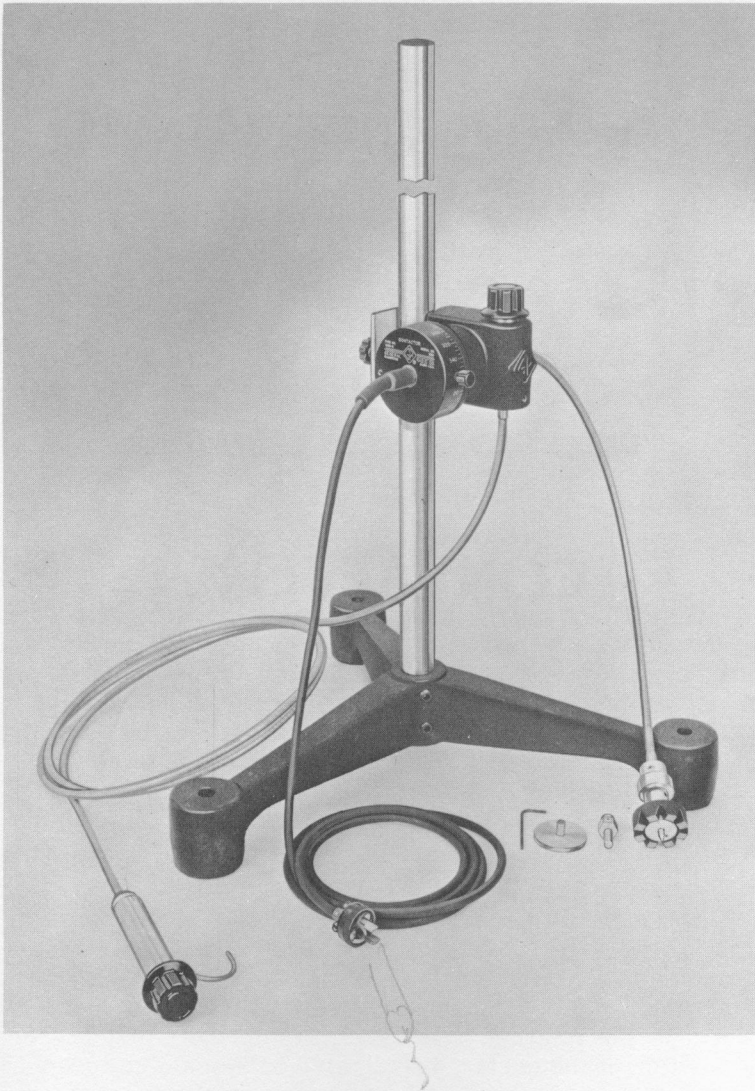

Figure 1. Type 1535-B Contactor.
**1.1 PURPOSE.** The Type 1535-B Contactor (Figure 1) is a control and coupling device for synchronizing a stroboscope with a rotary shaft so that motion can be observed as a function of shaft angle. It is especially useful in the examination of relatively low - speed machinery, with the Type 1532-D Strobolume, in such applications as the timing of loom shuttles and the adjustment of register in printing. It can be used equally well with the Strobotac® electronic stroboscope or with the combination of Strobotac and Strobolux, at speeds up to 1000 rpm. For higher speeds the Type 1536-A Photoelectric Pickoff should be used.